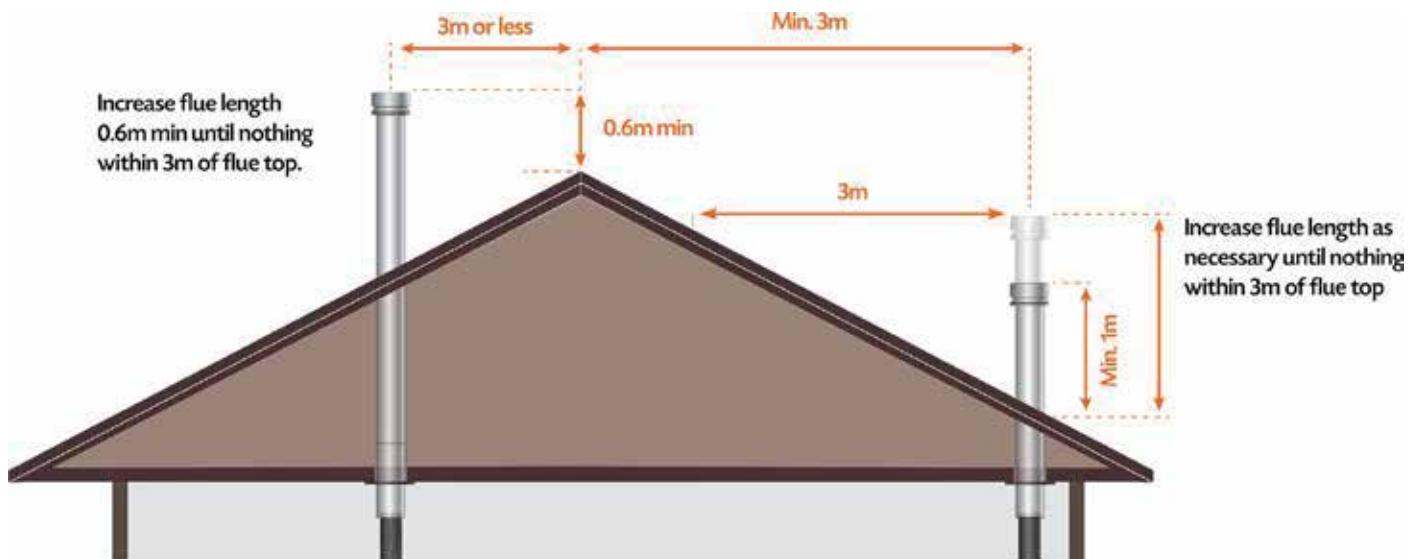

FIGURE 1
7. Add the remaining casings to the required height. Australian/New Zealand Standards state that “the flue pipe shall extend not less than 4.6m above the top of the floor protector”. If the flue pipe is within 3 metres of the ridge, the flue pipe must protrude at least 600mm above the ridge of the roof. If the distance from the ridge is more than 3 metres, the flue pipe must protrude at least 1000mm above roof penetration. Additional lengths of casing and flue may be required to achieve this. The flue pipe must be more than 6 metres from any nearby structure. Other clearances may be applicable, it is up to the installer to ensure compliance with all regulations. **See Figure 1 and 2 on P9.**